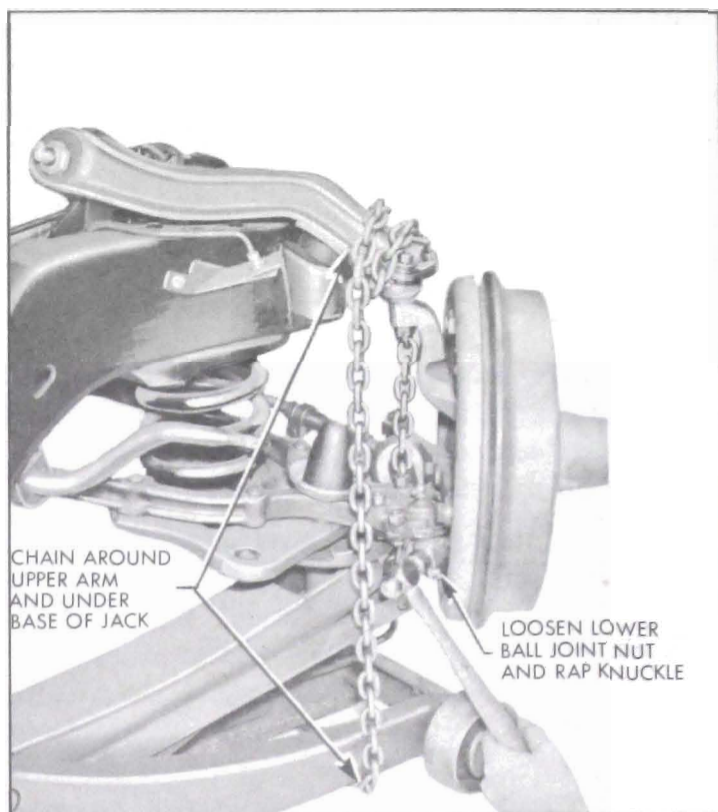

Figure 7-9—Separating Lower Ball Joint and Steering Knuckle
5. With car supported by frame, place jack under outer edge of spring seat. Wrap chain around upper control arm and under base of jack, fasten chain securely. See Fig. 7-9. Raise jack to place tension on lower ball joint stud.